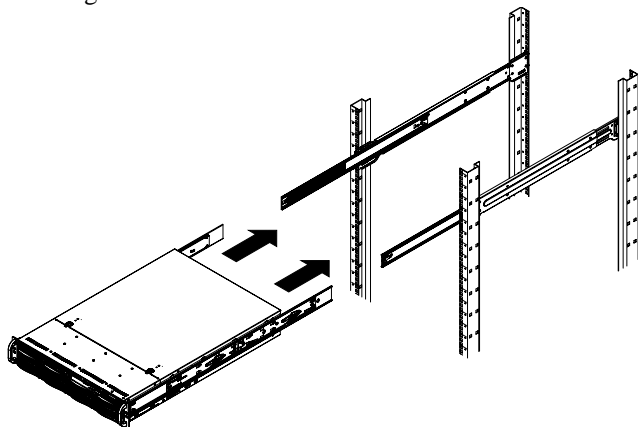

Figure 2-3 Installing the Server in the Rack
1. Extend the outer rails as shown in Figure 2-3.